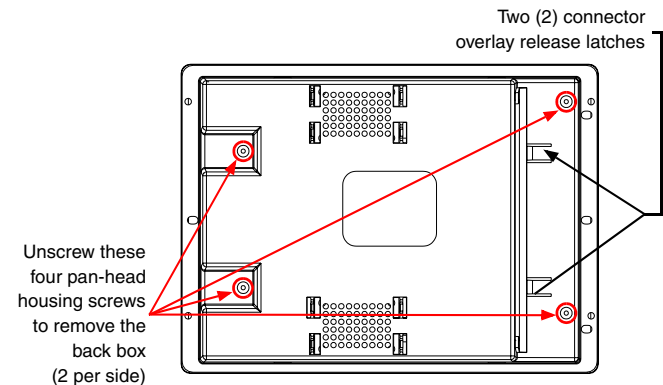

FIG. 9 Location of the securing screws and overlay on an NXD panel
2. Place the LCD facedown on a soft cloth to expose the under-side of the unit (FIG. 9). This step helps prevent scratching of the LCD.
5. Unscrew the outer housing (back box) by using a grounded Phillips-head screwdriver to remove the two sets of pan-head Housing Screws, located on both sides of the housing (FIG. 9).